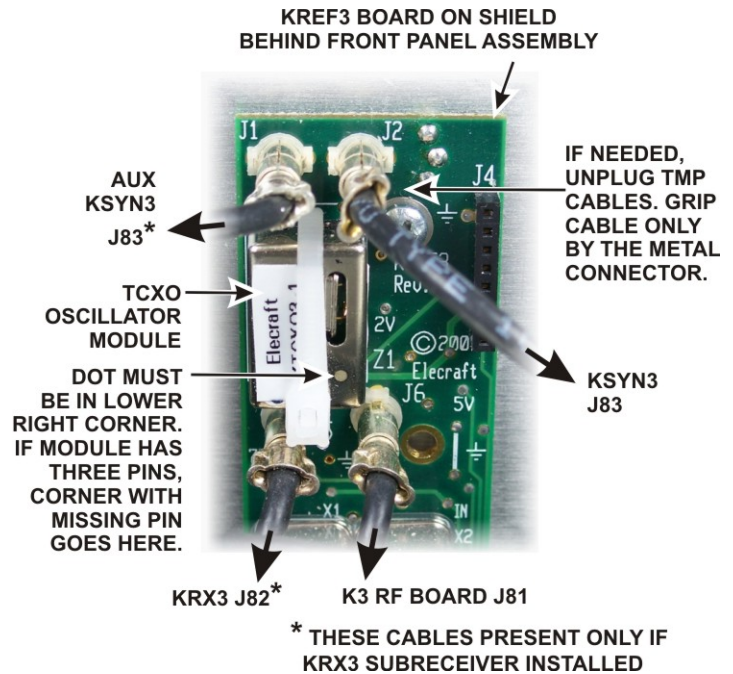

Figure 2. TCXO Module Installed on KREF3 PC Board.
- Locate the KREF3 circuit board. It is mounted against the metal shield running across the width of the K3 near the front panel (see Figure 2).
Install the ± 1 ppm TCXO oscillator module with one pin in each corner connector on the socket and the dot in the lower right as shown in Figure 2. If the new module has only three pins, the corner with the missing pin is the one with the colored dot and goes in the lower right. The insulator installed in the previous step should be between the oscillator module and the socket on the KREF3 board.
If you removed the black TMP cables to install the oscillator module, replace them as shown in Figure 2